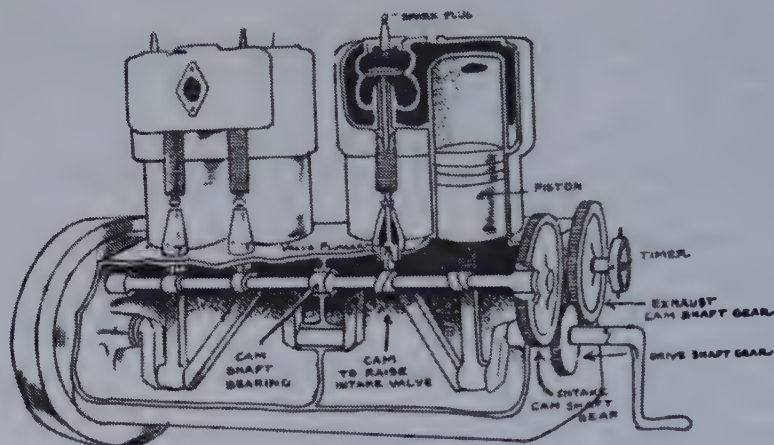

Fig. 1.—Side view of a Four Cylinder Engine with several parts omitted in order to clearly explain how the "Cam Shaft" and "Cams" operate.
***An Automatic Valve** is held against its seat by a light spring (See Chart 34, Fig. 1.) **During the Suction Stroke,** the sucking action of the piston as it slides outward in the cylinder, draws the valve open.